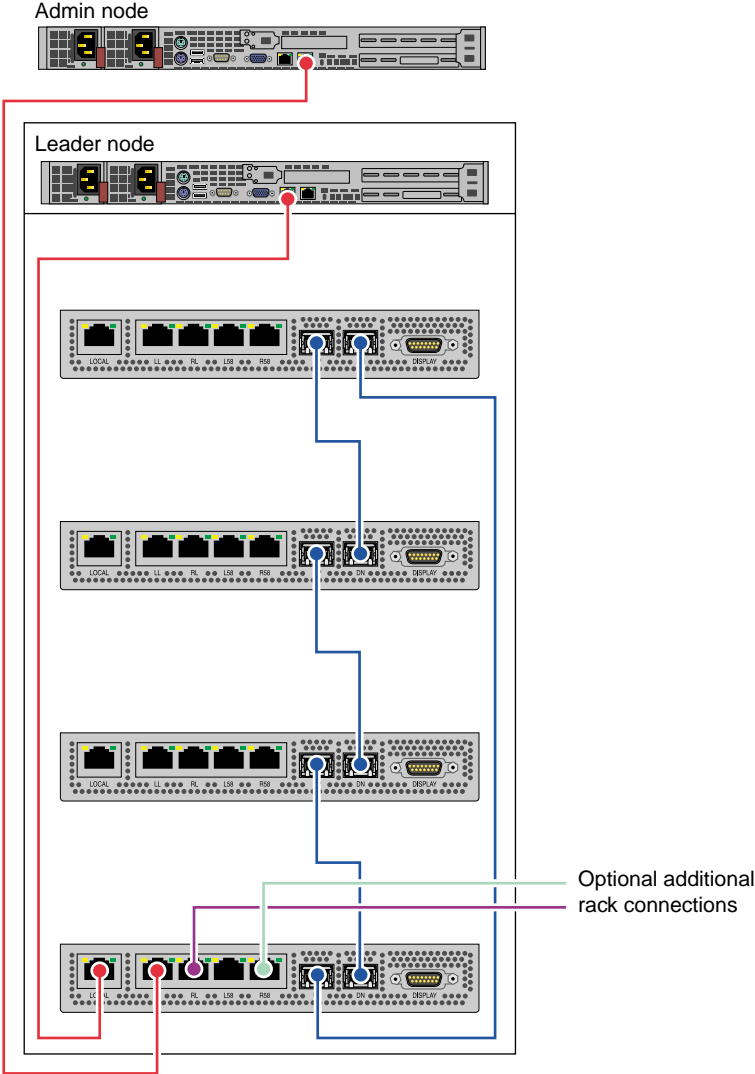

Figure 5-2 Admin/Leader to CMC Cable Examples
2. Disconnect both power cables, see Figure 5-2 on page 193 for server connection locations.